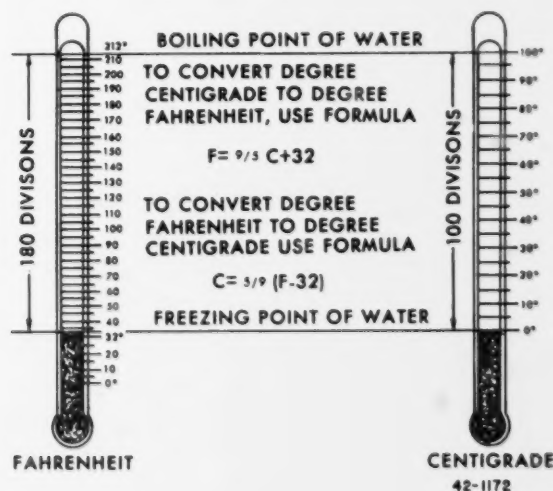

Figure 1-11. Temperature scales.
Temperature. Two types of scales that are in general use for temperature measurement are the centigrade (Celsius) and the Fahrenheit. Figure 1-11 compares the two scales. Looking at the centigrade scale, you can see that 0° is the freezing point and 100° the boiling point of water. There are 100 divisions on the centigrade scale compared to 180 divisions on the Fahrenheit scale. Water freezes at the 32° point and boils at the 212° point on the Fahrenheit scale.
1. What would the approximate temperature be, using figure 1-11, in centigrade if the Fahrenheit temperature was 60°? Then using the formula, calculate the exact temperature.